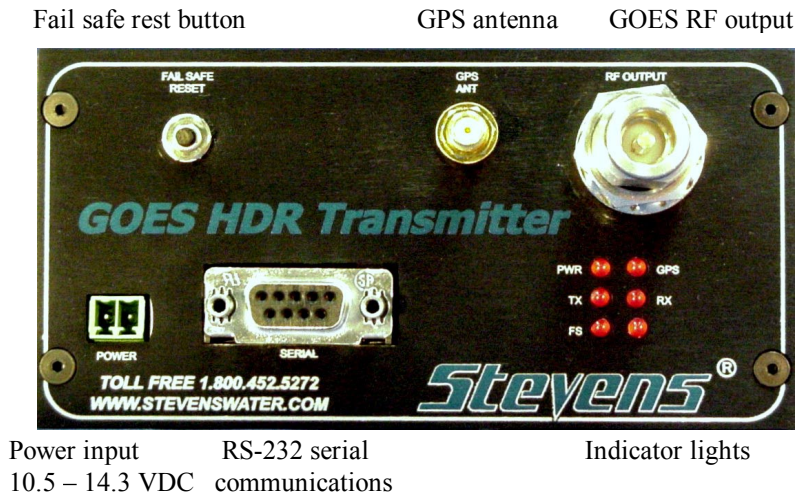

Figure 2.1 GHT Electrical Connectors
2. Observe the front panel of the unit. All electrical connections are made via this front panel. See *Figure 2.1 GHT Electrical Connectors* for the following discussion.